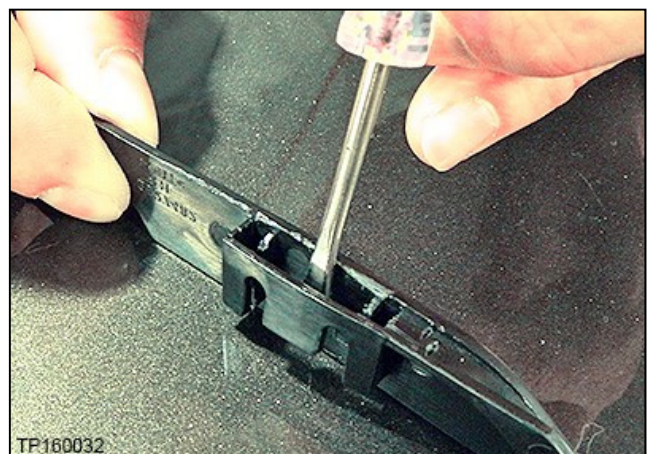

Figure 17
- Figure 17 shows how the retaining clip is released.